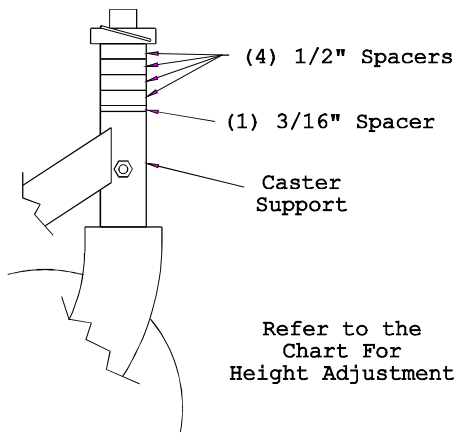
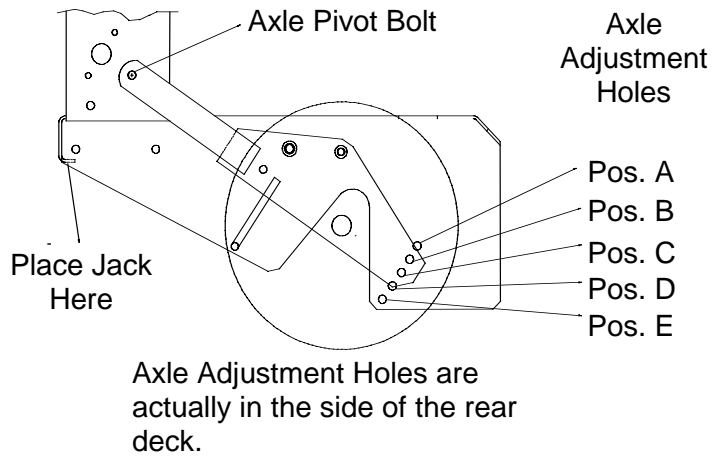

FIG. 15
FIG. 16
Desired cutting height range can be obtained by adjusting the rear axle and placing caster spacers above or below the caster arm (See Figures 15 and 16 along with the Cutting Height Adjustment Chart). **It may be necessary to readjust wheel drive and brake linkages.**
- d) Loosen but do not remove the two (2) axle pivot bolts and the two (2) axle adjustment bolts (See Figure 16).
- f) Raise the back end of the engine deck up enough to remove the two (2) axle adjustment bolts.
- g) With the jack, raise or lower the back end of the engine deck so that two (2) axle adjustment bolts can be reinstalled in desired hole location. A tapered punch can be used to help align the holes.
- h) Retighten all four (4) bolts, lower unit and remove jack.
- k) Adjust the caster spacers as directed in chart to match with the axle hole selected. (See Figure 15).